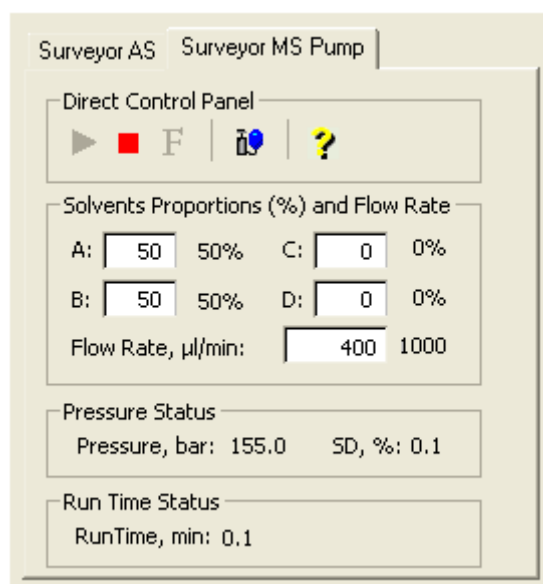

Figure 6-1. Inlet Direct Control view, showing the pump On
- i. In Tune Master, on the Control / Scan Mode toolbar, click on the AS/LC Direct Control button to display the Inlet Direct Control view in the top right corner of the workspace. See Figure 6-1.